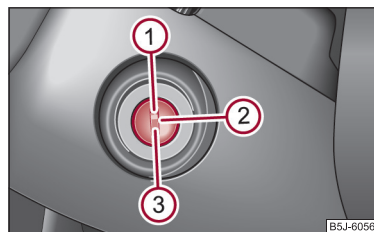

Fig. 94 Ignition lock positions
- The engine can be switched off by turning the ignition key from position ① into ⇒ page 89, fig. 94.